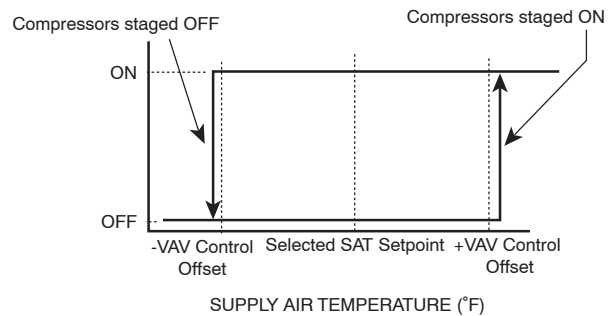

FIG. 29 – COMPRESSOR STAGING FOR VAV COOLING
- Non-Economizer Operation or Economizer Operation when economizer is not suitable is as described in Figure 29.